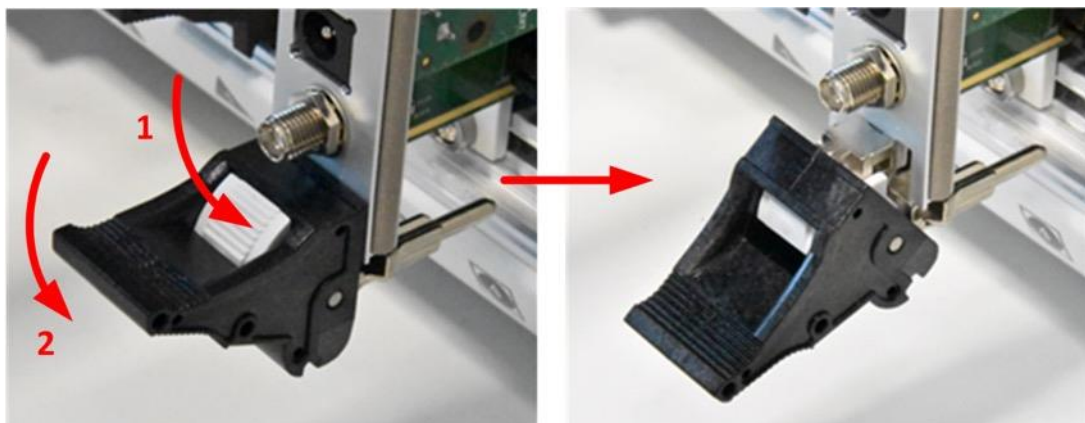

Figure 18: Push the ejector latch down prior to inserting the module
3. Push the ejector handle down (Figure 18) by pressing the grey button (step 1) on the handle and subsequently pushing the black handle (step 2) down.